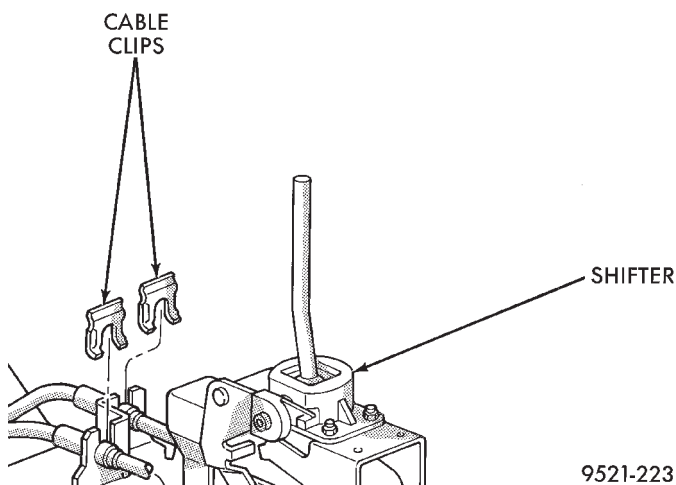

Fig. 13 Cable Retaining Clips
(8) Pull up on parking brake handle. Pull up on rear of console and remove console.
(9) Remove floor pan grommet from floor pan.
(10) Remove cable retaining clips at shifter (Fig. 13).